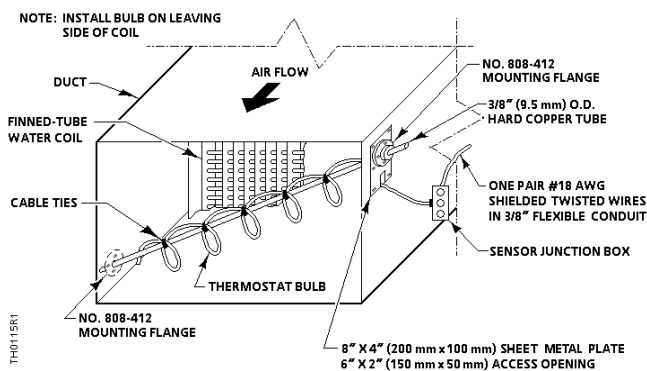

Figure 1. Limited Access Duct Mounting Option.
Figures 1 and 2 show the sensing element arrangements. They provide the fastest response when the element is exposed to cold temperatures. Figure 1 shows the most practical mounting arrangement; it does not require inside access to the duct. The other sensing element arrangements require inside access to the duct.
Required for limited access duct mounting option (Figure 1):
The duct sensing element is used to detect temperature stratification in the duct. For proper operation, be sure to mount the sensing element at an angle, as shown in Figure 1.
1. Position one P/N 808-412 mounting flange on the opposite side of the duct (near the bottom) from where the 8 x 4-inch (200 mm x 100 mm) mounting plate is to be mounted. See Figure 1. Mark the four screw holes and the 1/2-inch (13 mm) center hole of the mounting flange.
5. Cut a vertical access hole 6 inches high x 2 inches wide (150 x 50 mm) (near the top of the duct) on the side opposite of the previously mounted mounting flange. See Figure 1. Mark and drill mounting screw holes for the sheet metal plate.